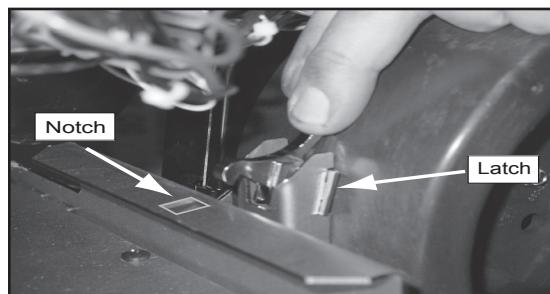

Figure 29.2
5. Reach behind the blower and release the latch by pushing the top of the latch towards the blower. **Figure 29.2**.